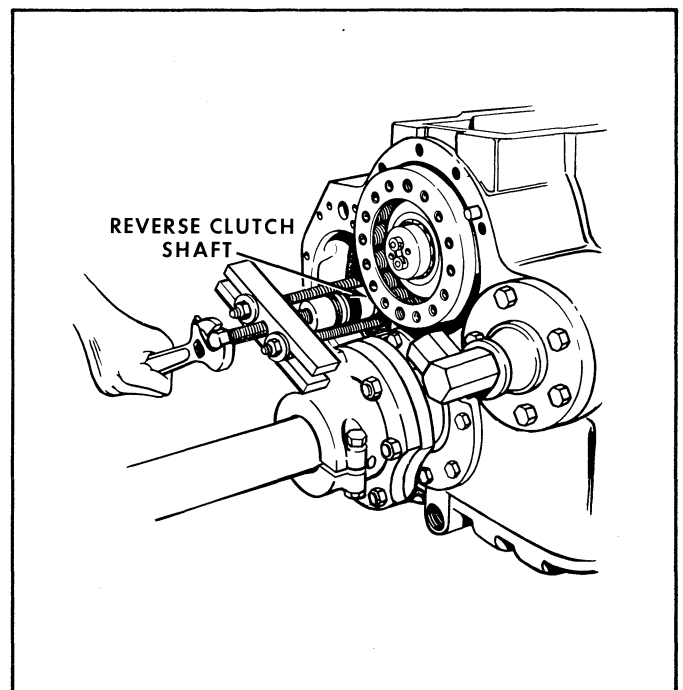

Figure 28. Removing the Hub-and-Back Plate with Standard Bar Puller.
(10) Remove the spring retainer and release springs from the clutch piston and the piston carrier. Gently tap the piston from the carrier. Remove the two rollpins and the two headless flat point setscrews from the carrier only if replacement of parts is necessary. Remove the piston ring and the lathe cut ring from the carrier. Discard the rings.
(11) Fabricate a pair of stiff wire hooks with hooks approximately 1/16 inch long. The hooks should be basically "L" shaped. Remove the seven sintered metal clutch plates and the seven steel clutch plates from the hub and back plate. Discard the clutch plates. Use a standard bar puller with 3/8-16 UNC studs (fig. 28), and remove the hub and back plate from the reverse clutch shaft only if removal is necessary.
(12) Remove and disassemble the forward clutch by the following described procedure. In place of the shroud nut, the drive sleeve, and the drive sleeve pin, the following parts are removed during forward clutch procedure. Remove the piston ring from the lock plate. Discard the piston ring. Cut and remove the lock wire from the two socket-head capscrews that secure the lock plate to the forward clutch shaft. Remove the two socket-head capscrews and the lock plate.
E. Use special tool T-8872 and remove the seven sintered-metal clutch plates (18) and seven steel plates from the hub and back plate (16). Use a standard bar puller with 3/8-16 UNC studs, and remove the hub and back plate from the forward clutch shaft. Remove the key (7) from the forward clutch shaft. (See figure 28).
E. Remove the seven sintered-metal clutch plates (fig. 60, 23) and the seven steel clutch plates (22) from the hub and back plate (21). Use a standard bar puller with 3/8-16 UNC studs, and remove the hub and back plate from the reverse clutch shaft. Remove the key (12) from the reverse clutch shaft. (See figure 28).